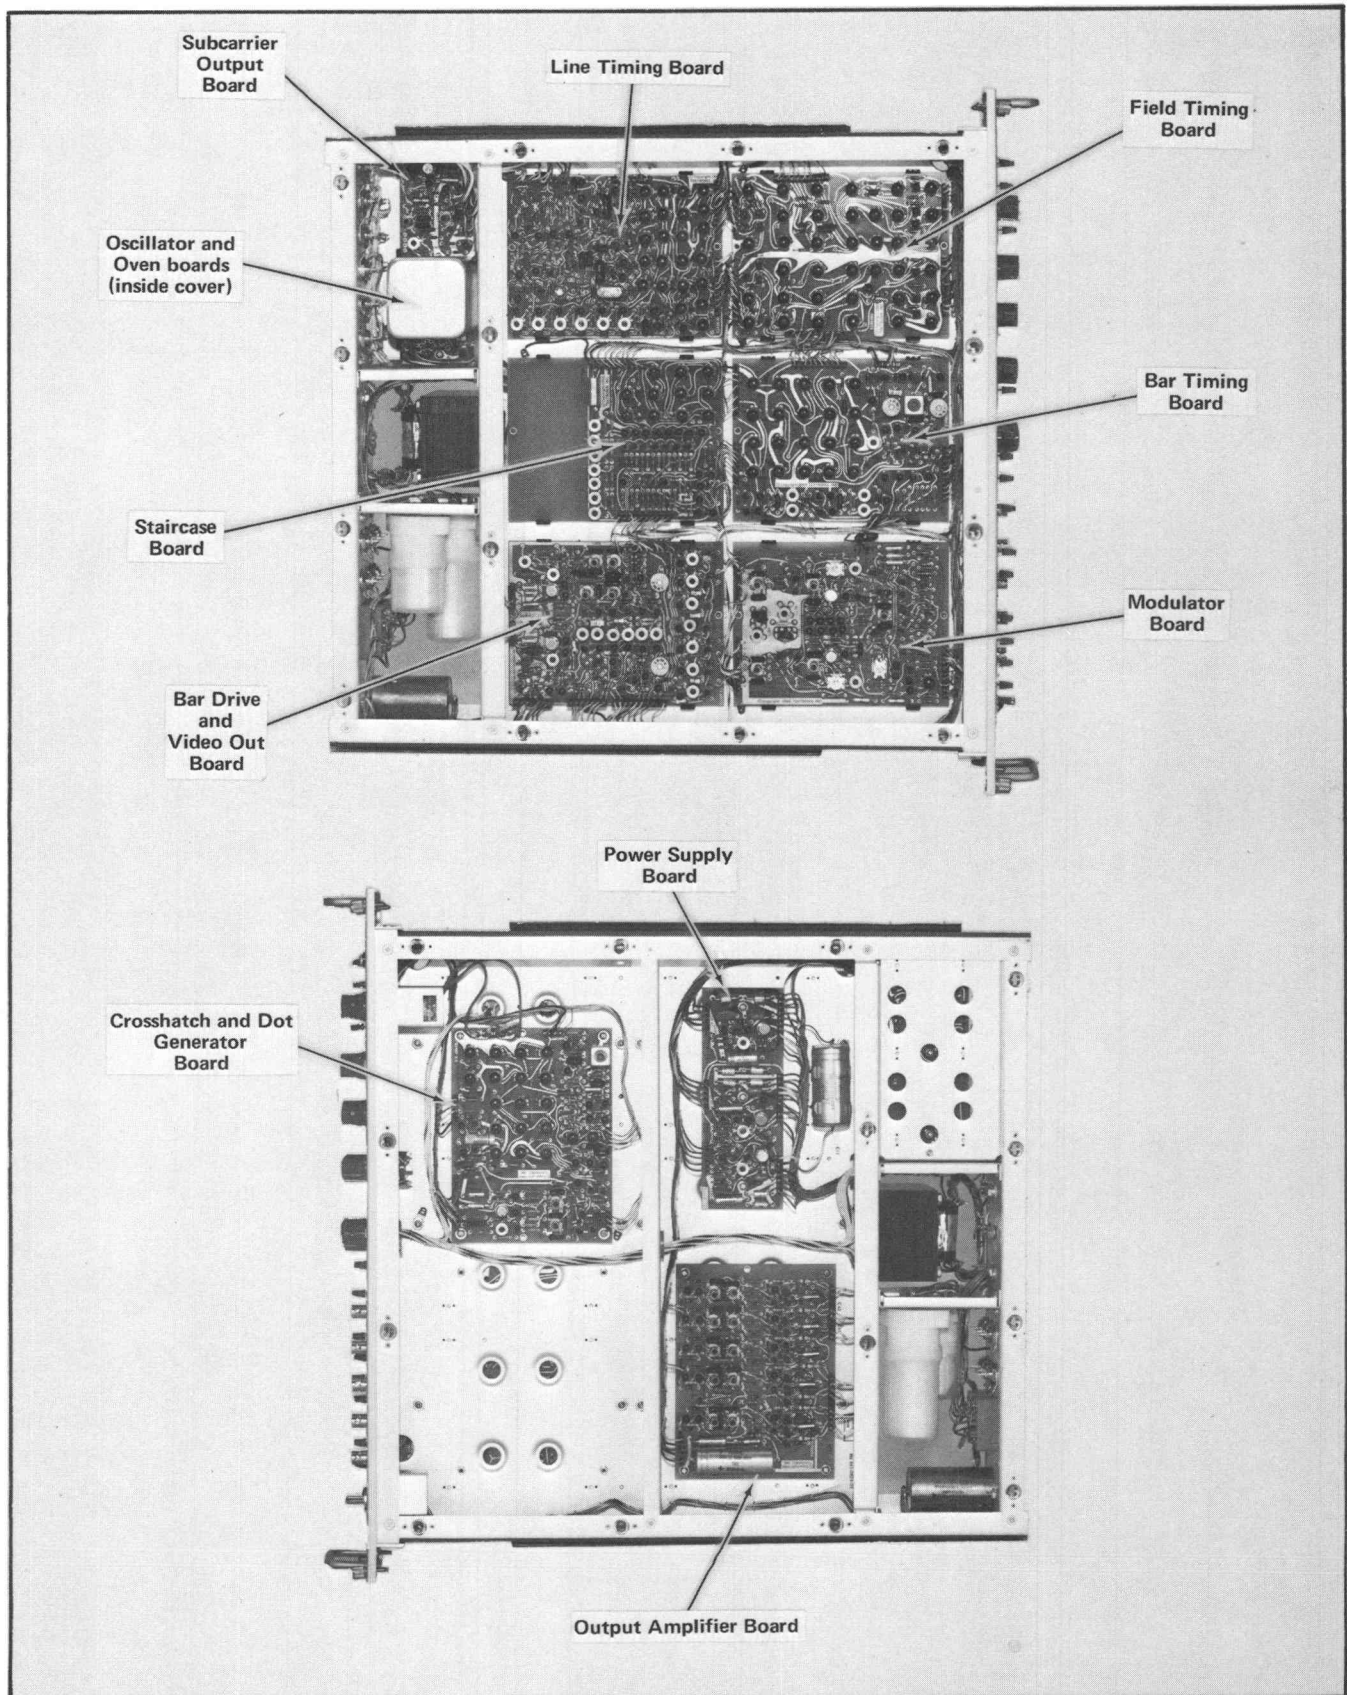
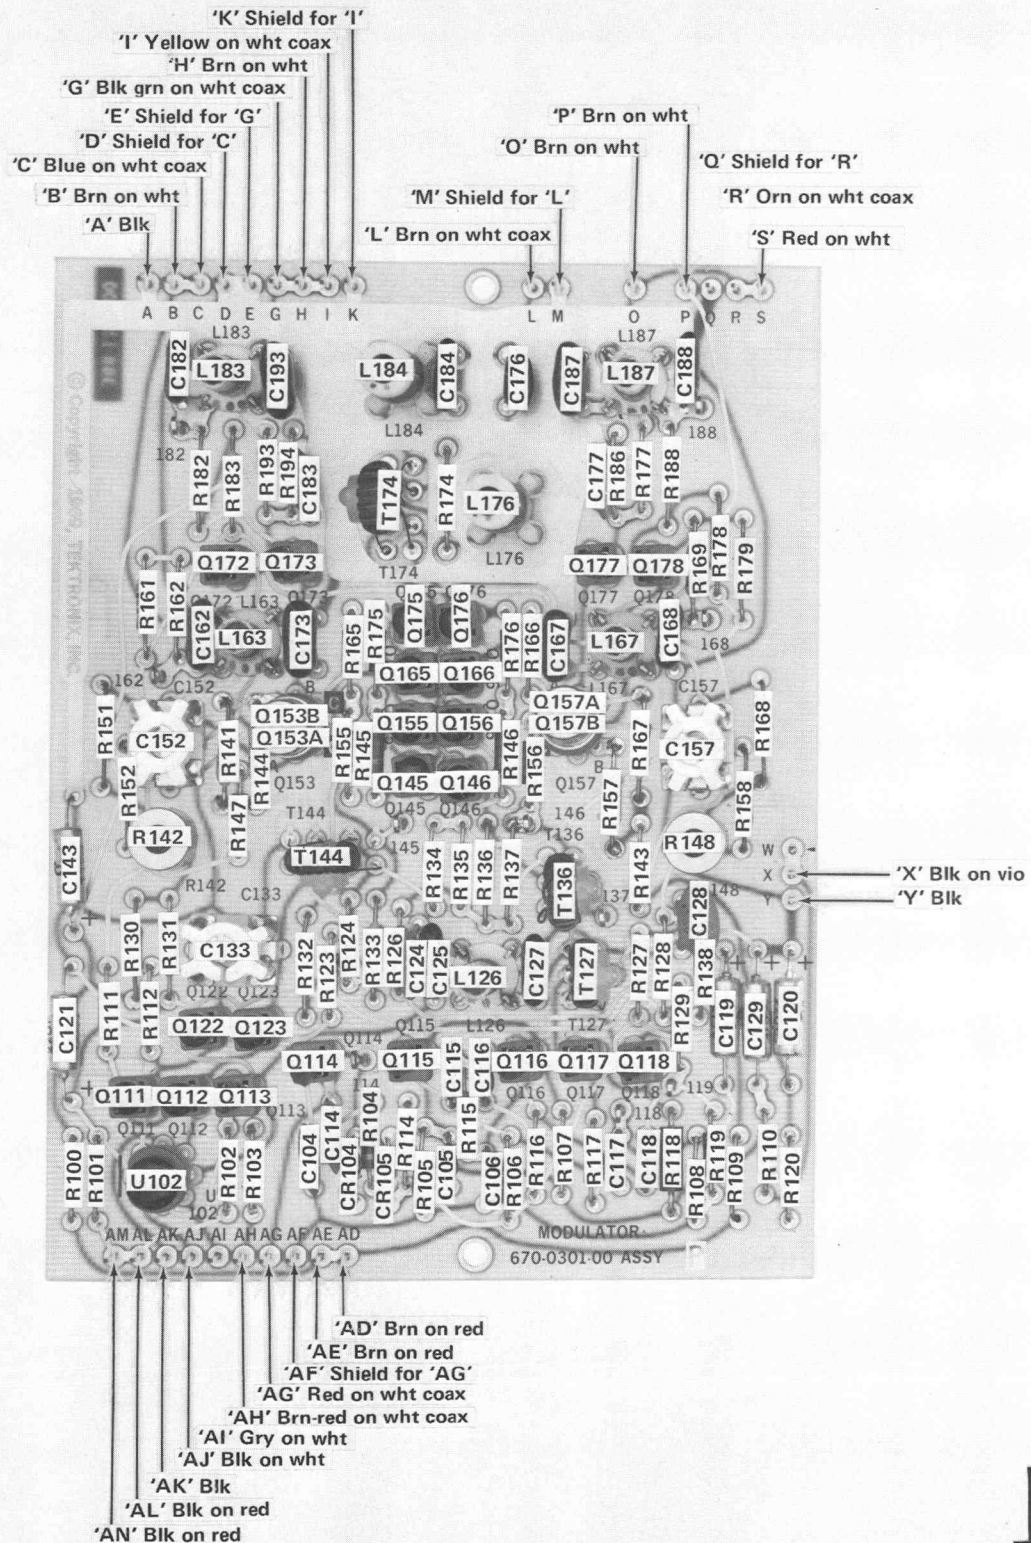

Fig. 4-6. Location of circuit boards in the Type R140.
Fig. 4-7. Modulator board; component identification and wire color code.
Circuit Boards. Fig. 4-6 shows the location of each circuit board within the instrument. Figs. 4-7 through 4-17 show a full view of each circuit board. Each electrical component on the boards is identified by its circuit number, and all wire color codes are shown. These pictures, used along with the diagrams, aid in locating the components on the circuit boards.
6. Check Circuit Board Interconnections. After the trouble has been isolated to a particular area or circuit, check the pin connectors on the circuit board for correct connection. Figs. 4-7 through 4-17 show the correct connections for each board.